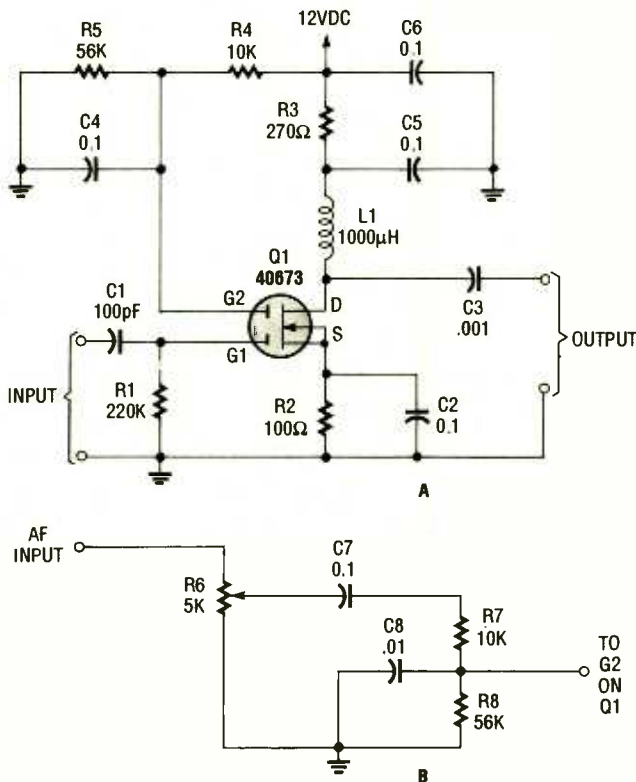

Fig. 4. The gain of the buffer-amplifier circuit in A can be amplitude modulated by replacing the components going to gate 2 with the circuit in B.
**HF/VHF Buffer Amplifier.** A buffer amplifier is used to isolate the output of the oscillator from circuits that follow it along the signal path. Variations in the load of an oscillator can shift its frequency, so a buffer is used to prevent that problem. Figure 4 shows a circuit for a buffer amplifier that can be used in the low-frequency (LF), high-frequency (HF), and lower end of the VHF ranges.
a tapped inductor (T1) in its feedback network. The transformer used for this purpose is a standard 455-kHz IF transformer. The transformer has a tapped primary that is used to match the low collector impedance of bipolar- (PNP or NPN) transistor amplifiers, but we can press that tapped LC-tank circuit into service as a Hartley oscillator. The secondary of the transformer forms a handy output port to pass the 455-kHz signal to the buffer stage (see Fig. 4 and discussion above for a description of that portion of the circuit).